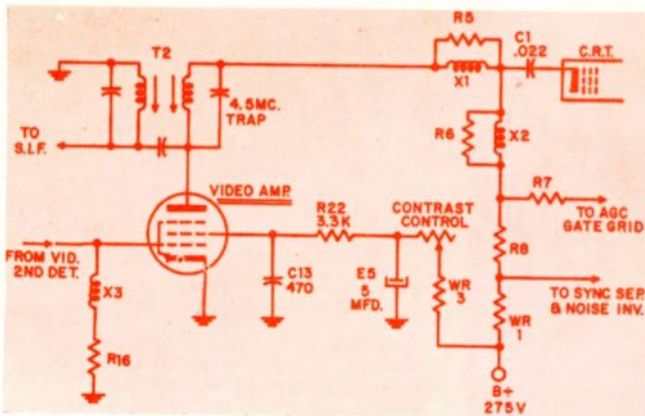
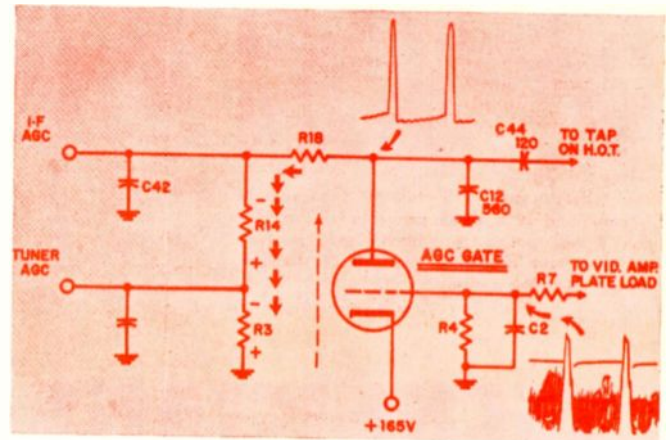

Fig. 1—Contrast control circuitry in Philco's "K" line TV receiver.
Fig. 2—AGC circuit of "K" line chassis.
Fig. 2 (left)—Blonder-Tongue designed for high attenuation with sharp cutoff for strong local channels. The unit is tuneable throughout either the low or high band. Coaxial fittings are required. (Right)—tuneable filter made by Jerrold is designed for coaxial cable installation in areas with strong interfering signals.
band, heavy filtering will be absolutely necessary regardless of station direction. Single channel filters with high attenuation and a very sharp cutoff cost from \$25 to \$100. You can therefore see that if you already have several local channels it could be quite expensive to add fringe channels to the list. Fig. 2 shows some typical filters for quality installations.
A simple filter for very weak interference is shown in Fig. 1. These filters usually cost less than \$10.
As shown in Fig. 1, the contrast control has been specially placed in the screen grid circuit to maintain good picture quality. With this "screen control," the amplifier's transient response is not altered by different control settings and, for this reason, the characteristics of the video signal remain unchanged. There is also an improved and increased contrast range. This is shown on the schematic.
(1) A decrease in screen resistance
causes screen voltage to rise. (2) Increased screen voltage causes the video amplifier plate current to increase and, as a result, its plate voltage to decrease. (3) Since the AGC gate tube grid is dc coupled to the video amplifier plate circuit, the positive grid voltage decreases, increasing bias (Fig. 1 and 2). (4) This increase in gate tube grid bias reduces gate tube conduction current. (5) Reduced gate tube conduction slows the charging of capacitor C12—thereby causing a lower AGC potential to be developed. (Fig. 2). (6) Under reduced AGC conditions, the "front-end" tuner and IF stages operate at a higher gain and furnish a larger video signal to the video amplifier control grid. This signal, once amplified, provides increased CRT drive.
In Fig. 1, resistor R22 and capacitor C13 form a high frequency compensation circuit. C13 acts as a bypass for the high video frequencies and thereby prevents high frequency degeneration while capacitor E5, the electrolytic, is included to bypass lower frequency signal components—preventing degeneration in this range also for maintenance of proper dc control.